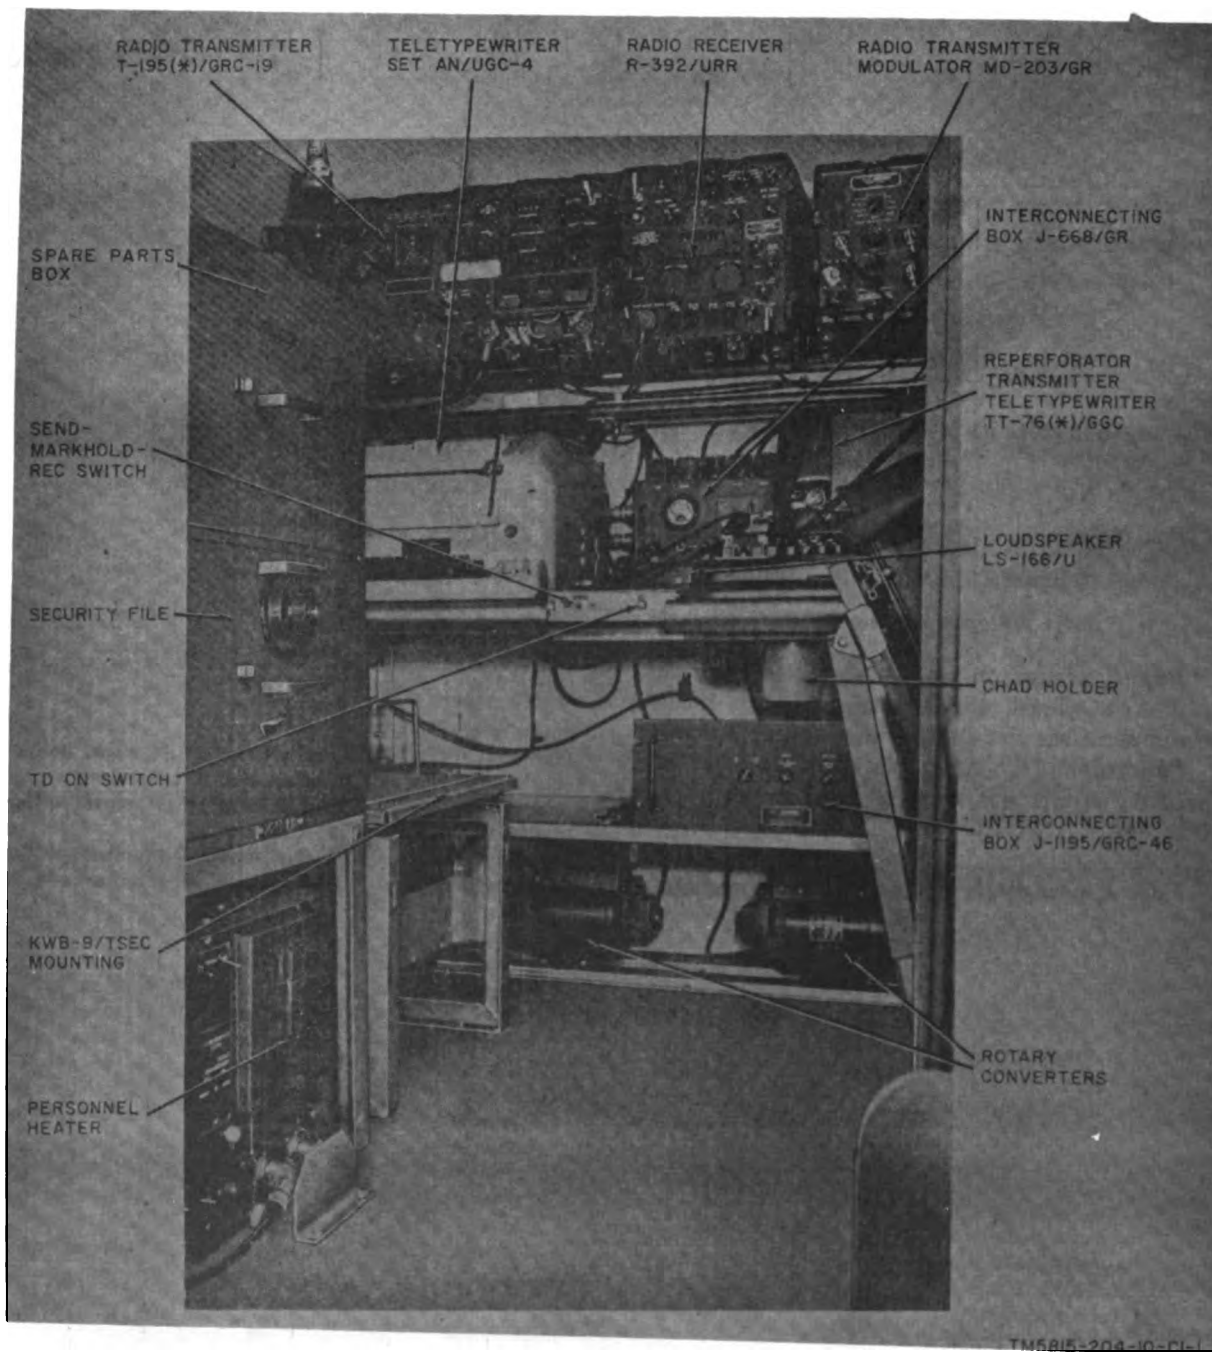

Figure 1.1. (Added) Radio Teletypewriter Set AN/GRC-46B, interior view, major components installed.
a.1. In the S-144/G, a metal file cabinet with two drawers is mounted on the rack above the heater (fig. 1.1). The lower file drawer has a combination lock and is the security file; the upper drawer is the spare parts box. The KWB-9/TSEC security equipment is mounted on a rack next to the file cabinet. The top frame of the rack is shock mounted. A plate, which is fastened to the KWB-9/TSEC security equipment, is secured to the top of the rack with four $\frac{1}{4}$ -turn wing-type fasteners for quick removal.